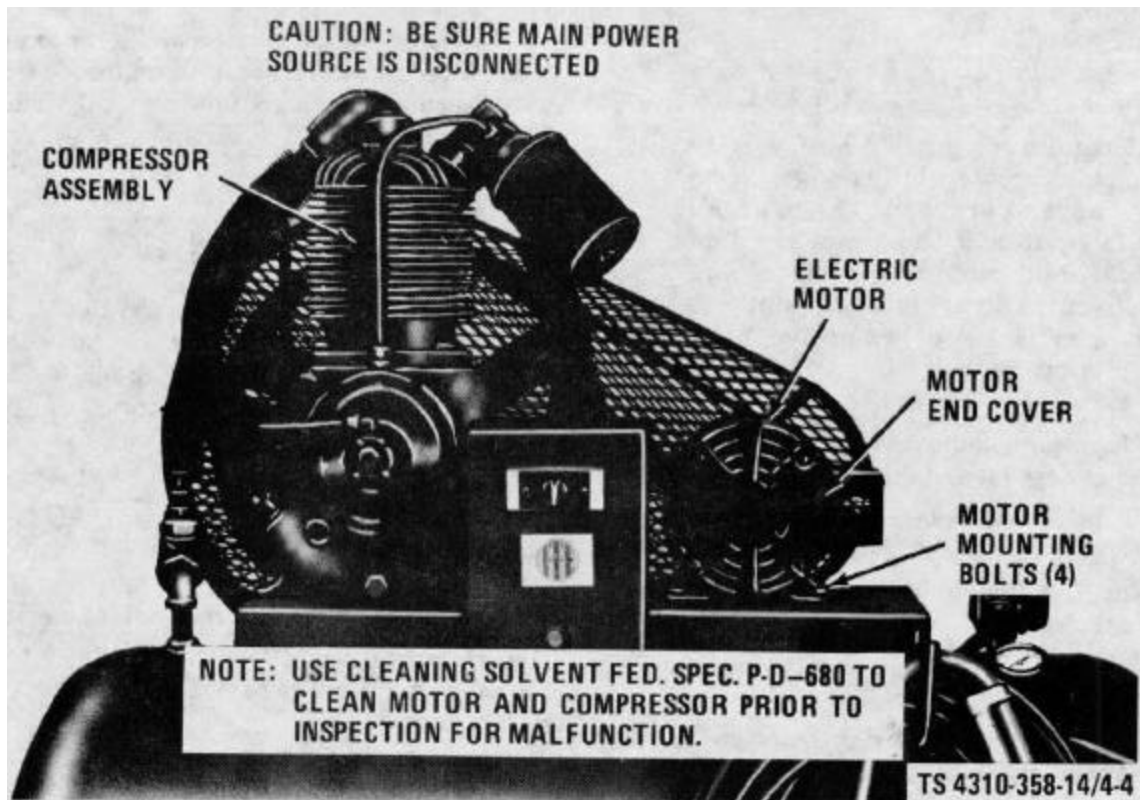

Figure 4-4. Electric motor and compressor assembly, removal and installation.
a. Removal. Refer to figure 4-4 and remove electric motor as follows:
- (1) Remove attaching hardware and remove V-belt guard.
- (2) Tag and disconnect electrical leads.
- (3) Remove motor mounting bolts.
- (4) Remove V-belts from motor pulley.
- (5) Remove electric motor assembly.
b. Installation. Refer to figure 4-4 and install electric motor as follows:
- (1) Place electric motor in position and loosely install mounting bolts.
a. Removal. Refer to figure 4-4 and remove the compressor assembly as follows:
- (2) Disconnect and remove aftercooler tube.
- (3) Remove compressor mounting bolts.
- (4) Remove V-belts from compressor flywheel and remove compressor assembly.
b. Installation. Refer to figure 4-4 and install the compressor assembly as follows:
- (1) Position compressor assembly on tank and install mounting bolts after aligning flywheel with motor pulley and installing V-belts on pulleys.
- (2) Tighten compressor mounting bolts.
- (3) Install and connect aftercooler tube.
- (4) Install V-belt guard and attaching hardware.